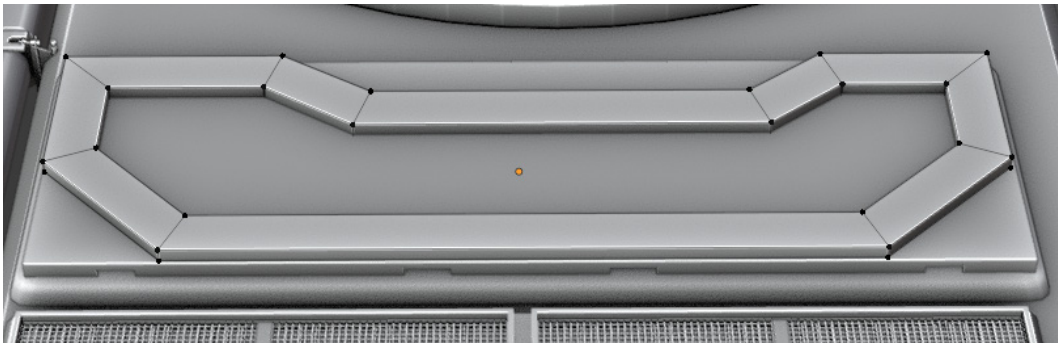

Figure 8.53 – An outline
8. Create an outline, as shown in *Figure 8.53*, on top of the panel. You can do this by creating the shape using a plane, inseting faces, and deleting the inner faces.